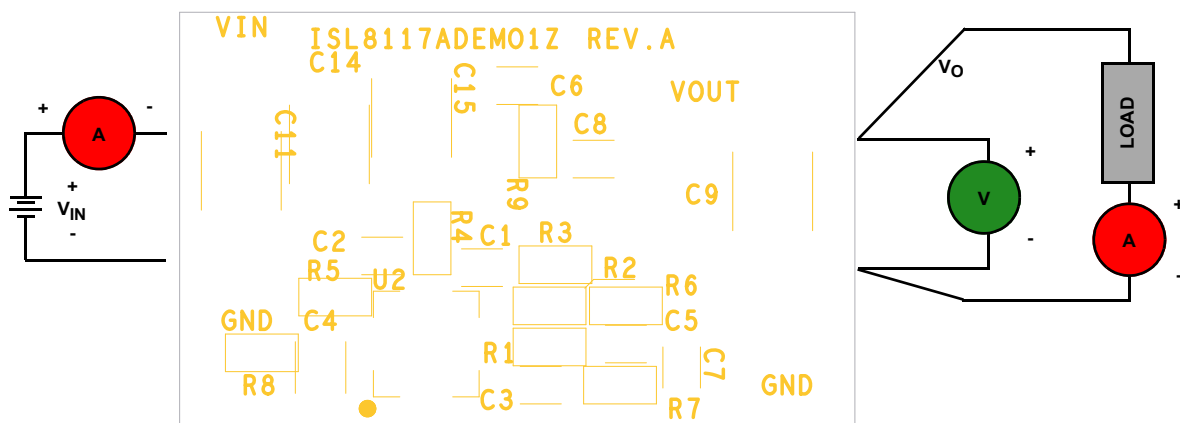

FIGURE 3. PROPER TEST SETUP
1. Ensure that the circuit is correctly connected to the supply and electronic loads prior to applying any power. Please refer to Figure 3, on page 3 for proper setup.
As shown in Figure 3, on page 3, 4.5V to 60V V_{IN} is supplied to J1 (+) and J2 (-). The regulated 3.3V output on J3 (+) and J5 (-) can supply up to 6A to the load.